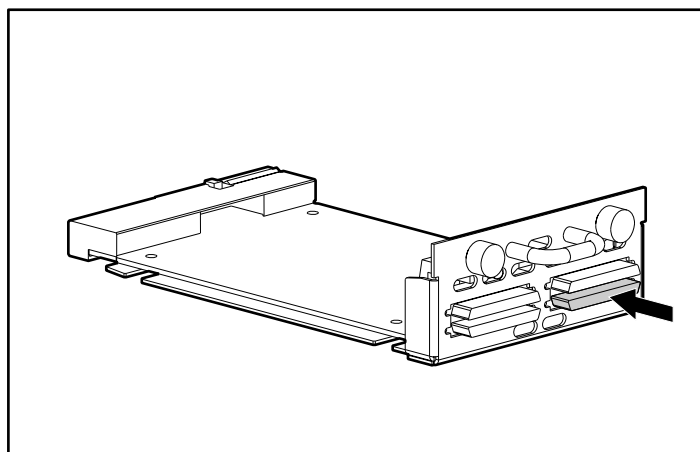

Figure 24: SCSI buses
2. Locate the SCSI buses on the back of the router (see Figure 24).